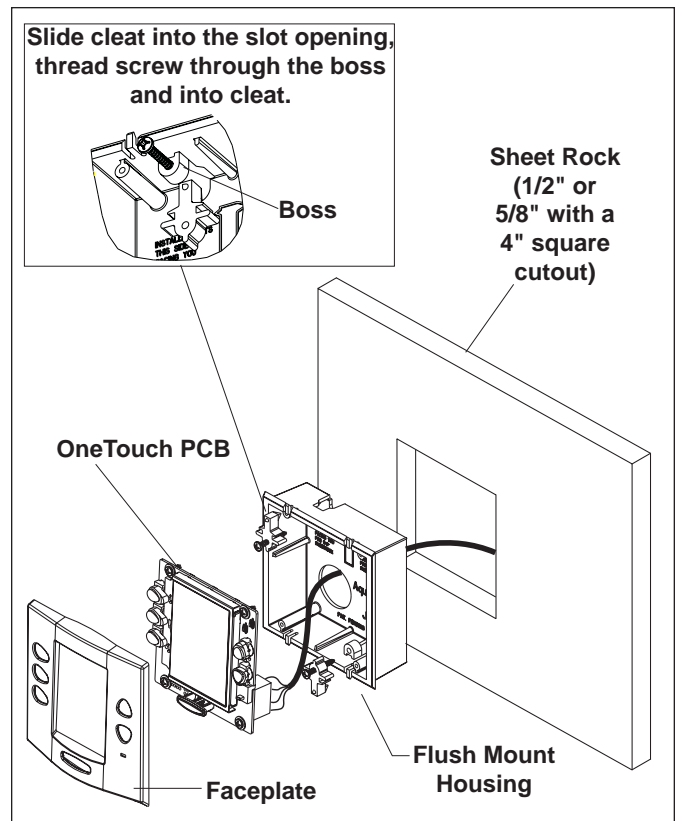

Figure 26. OneTouch Flush Mount Installation
- Pull the 4-conductor cable through the hole in the wall and the hole in the flush mount box. Push the flush mount box into the hole in the wall with the correct orientation (see Figure 26).
- Insert a screw through the screw boss (see Figure 26). Put a cleat into the top "U" shaped hole. Hand tighten the screw and repeat the process for the bottom cleat.